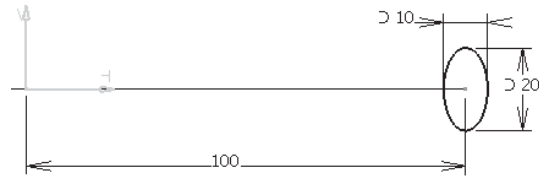

Figure 10-63 The sweep profile
5. Draw an ellipse, as shown in Figure 10-63, and exit the **Sketcher** workbench.